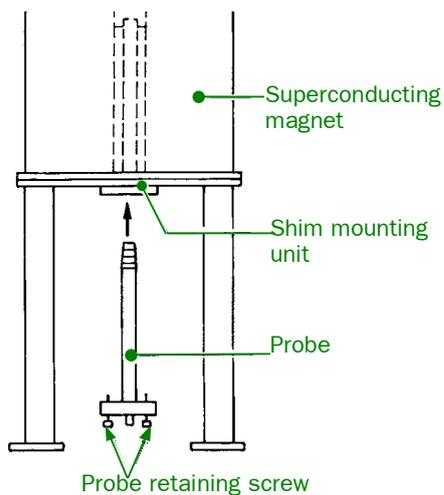

Fig. 4 Installing the Auto tune 5 mm FG/TH Tunable Probe
- ✎ Place the probe and the room temperature shim mount in close contact with each other and attach them with the two provided retaining screws as shown in Fig. 4.